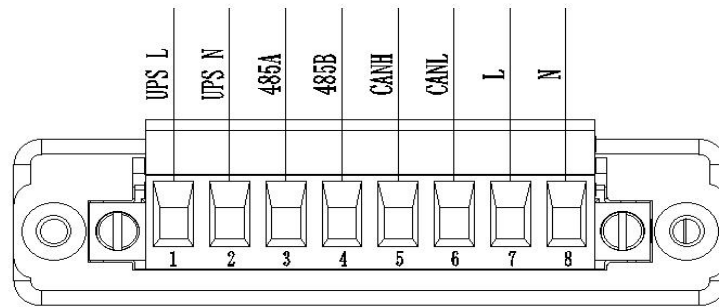
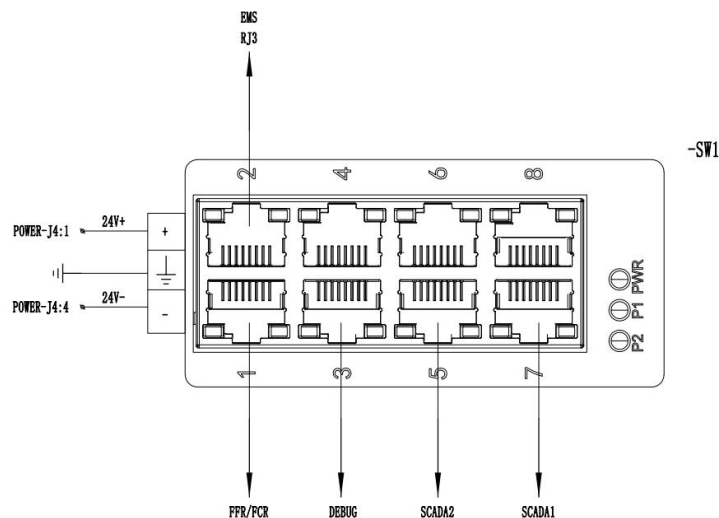

Figure 4.12 XP5 port definition diagram
Figure 4.14 External port interface definition
are recommended in Table 4.8. Connect them from the cabinet base, with specific locations shown in Figure 4.12. Refer to Figure 4.14 for the external port interface definitions.
- Figure 4.14 illustrates the external communication ports, all of which are connected using CAT6 Ethernet cables.